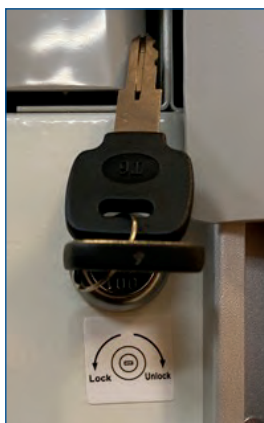

Fig. 2
1. Start by unlocking Cart with the Key (Fig. 2).